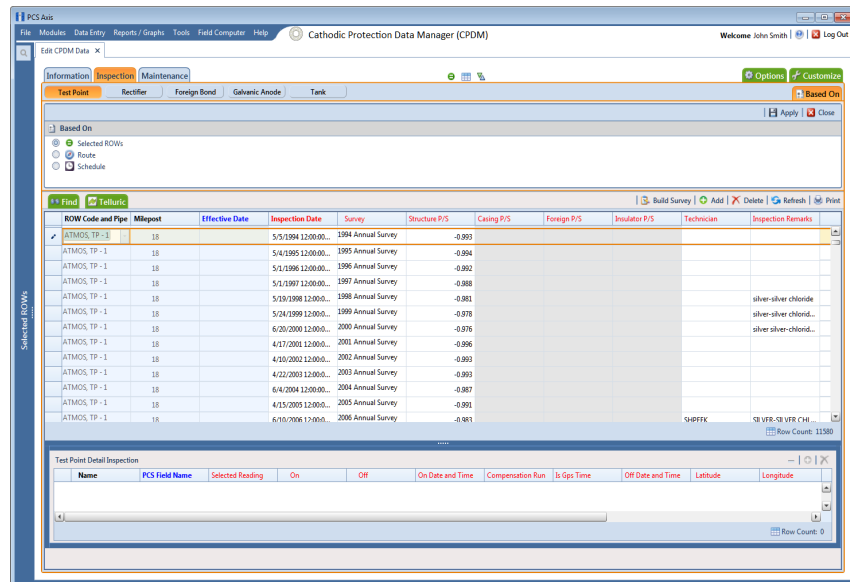

Figure 7-35. Based On Selected ROWs
- a Click the **Based On** tab  to open the Based On panel (Figure 7-35) and then complete the following steps: